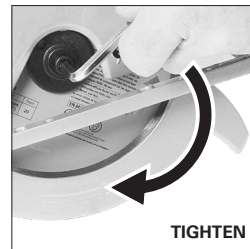

Fig. 2
- Using the supplied Hex Key loosen and remove the arbor socket headed screw, washer and outer blade drive flange. (**Fig. 2**)